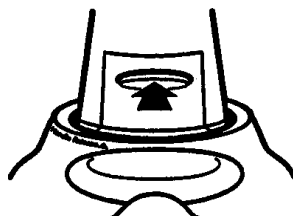

FIGURE 7
- Press handle release button in (See **Figure 7**) and push handle down to lock into position.